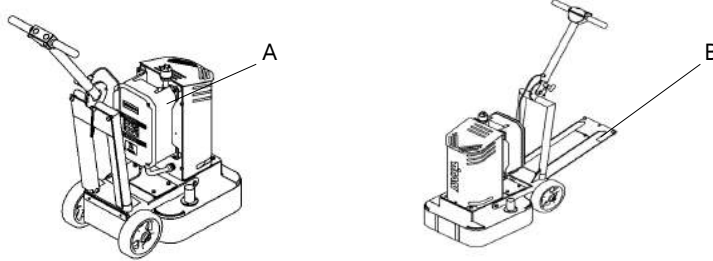

Fig 1
1. Unplug the power cord from the twist lock plug (A). Ensure the handle is in its full upright position (Fig 1). Tilt the equipment back by removing the pull pin, releasing and stepping on the step down plate (B) and pulling down on the handle.
2. Slowly lift the equipment back to the upright position by using the step down plate (B) to prevent the TITAN XT from hitting the floor.
3. Fold up and secure the step down plate (B); replace the pull pin.